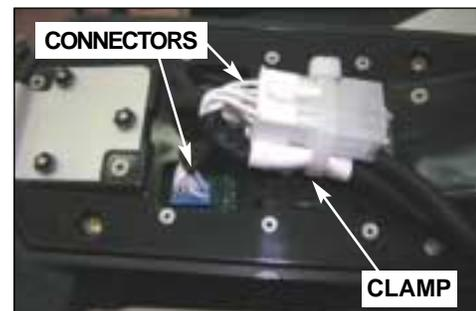

FIG. 305B:
- (3) Pull control panel assy forward and raise it. Remove plastic clamp and unplug both connectors (blue and white) (see fig. 305B). Remove control panel.